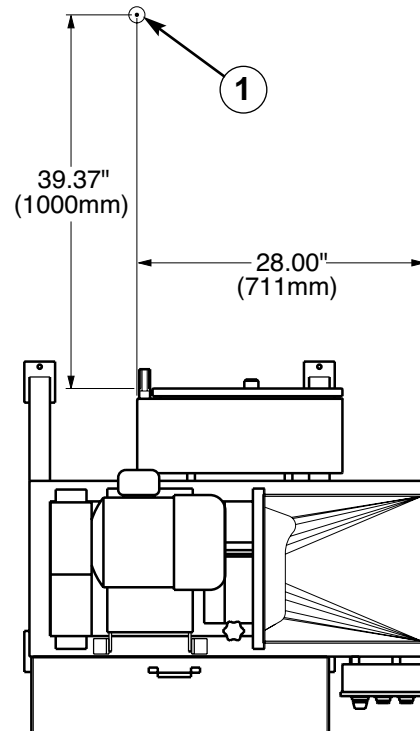

Figure 8 — Top view showing maximum sound position.
The amount of noise generated by this machine in use will vary depending on the type, condition and volume of product being cut, the size of cut and the acoustical characteristics of the room in which the machine is installed. A machine in good condition will register approximately 76 dB(A) in a free field over a reflecting plane when run without product and set to produce 1/8" (3.2 mm) dices. At a height of 63" (1600 mm) from the floor and 39.37" (1000 mm) from the machine, maximum sound position occurs at a point in front of the electrical enclosure on a standard height machine (Figure 8). Machines set for larger dicing or used without a crosscut spindle will generate less noise when measured under similar conditions.